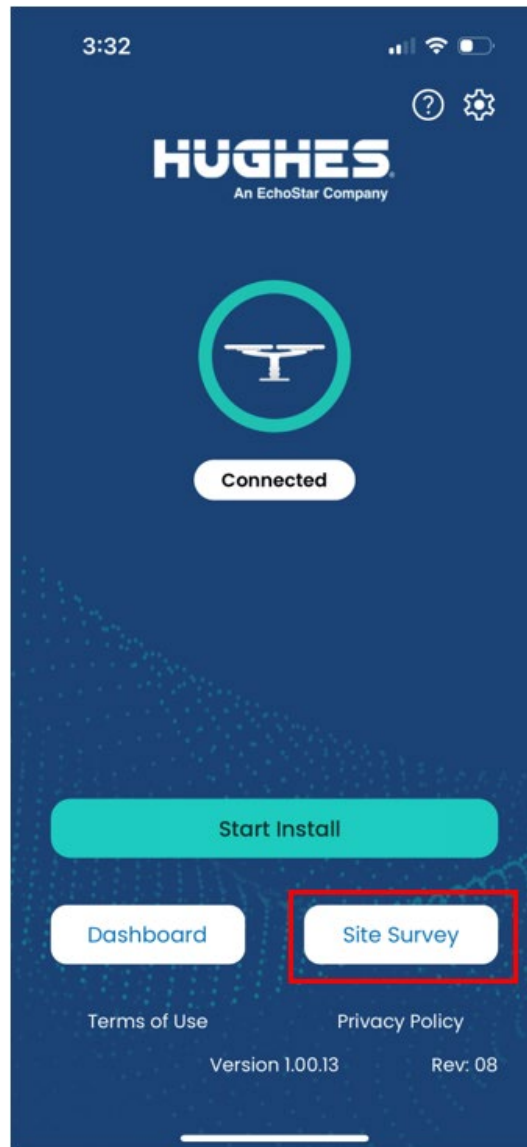

Figure 74: Start Survey button
1. Launch the app on the smartphone and click **Start Survey**, as shown in Figure 74.